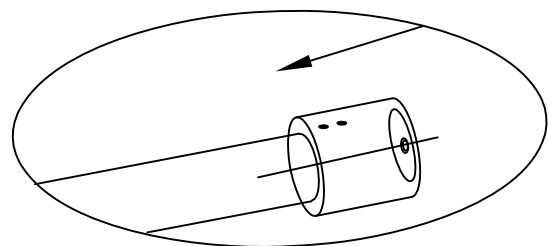

Fig. 9
- Slide the Rail End Assembly (5) (6) on to end of Top Rail (2) to be connected shower wall. Loosely tighten the Rail End Assembly (5) into place on Top Rail (2) making sure the rail end assembly is fully engaged on top rail. See Fig.9 for details.